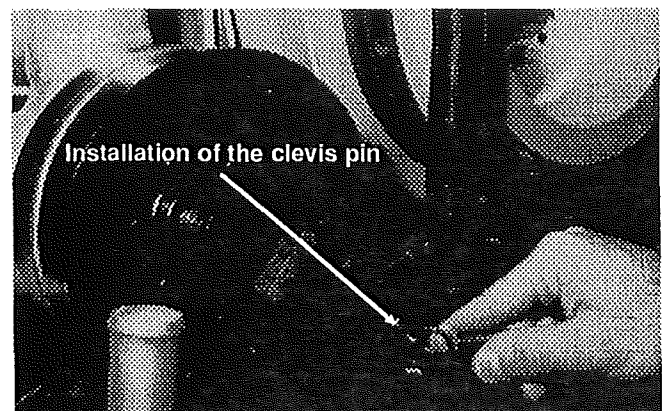

FIG. 25
3. Rotate pulley tensioner bracket in order that its mounting hole meets the tensioner bracket hole, then lock the system with the provided clevis pin (see fig. 25).